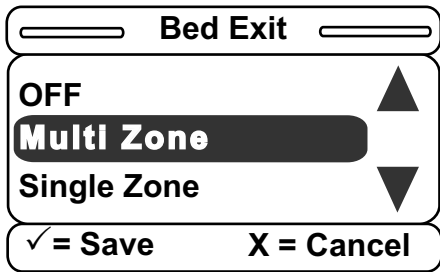

Figure 36 – Bed Exit menu
- After you select **Bed Exit**, the Bed Exit menu displays (Figure 36). You can set the Bed Exit option to OFF, Multi Zone, or Single Zone. Press **Enter** on the footboard panel to make your selection or **Exit** to cancel the operation.